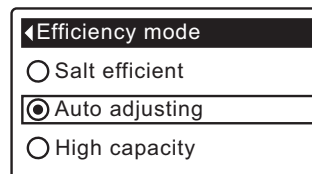

FIG. 79
**8a. Efficiency mode:** If the desired efficiency mode already has a black dot next to it (See Figure 79), go to Step 9. Otherwise, press the DOWN (▼) or UP (▲) buttons to scroll to the desired efficiency mode, then press SELECT (O) to choose it.